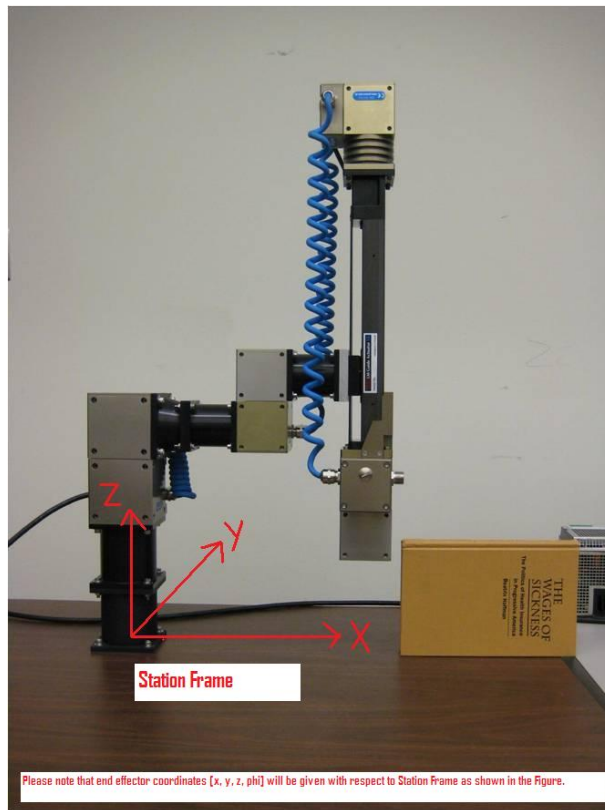
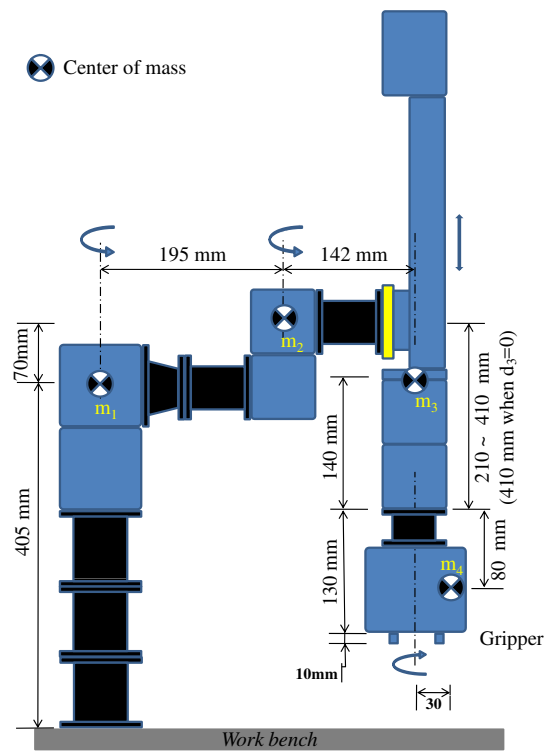

Figure 1: Assigned Station Frame. The robot is shown in joint configuration $(0^\circ, 0^\circ, -200\text{mm}, 0^\circ)$.
Figure 2: Schematic of SCARA type robot system assembled in 488 Lab.
In this project, you will simulate a 4-DOF SCARA type (RRPR) manipulator and apply the subject matter of your lectures to the manipulator. SCARA Configuration is shown in Figure 8.5 of your text, the real robot is shown in Figure 1, and a schematic of the real robot is shown in Figure 2. This simple manipulator is complex enough to demonstrate the main principles of the course while (hopefully!) not bogging you down with too much complexity. Each part of the project builds upon the previous one so that at the end of the project, you will have created an entire library of manipulator software. Two SCARA robots are also there in the lab, and you will get a chance to test some of your functions on the real robot. The project is to be done in groups, with each group consisting of **three** students. Please note that you are free to “adapt” the project, as long as these adaptations have been discussed with me and gotten approved.
- Assign D-H frames to the manipulator. Assign station frame $\{S\}$ as shown in Figure 1. Assign the origin of Tool frame $\{T\}$ in the centre of the gripper (note Z_T points downwards). Determine the D-H parameters and the forward kinematic equations. Although numerical values are given to you, it would be better to
2. The kinematic parameters are shown in Figure 2. Joint 1 has a joint limit of $\pm 150^\circ$, joint 2 has a joint limit of $\pm 100^\circ$, joint 3 can move between $[-200\text{mm}, -100\text{mm}]$ (the loewer limit is hardware limit, but the upper limit is artificially imposed so that the gripper does not hit the workbench), and joint 4 has a joint limit of $\pm 160^\circ$. In your simulator, you should assume that the robot has a gripper mounted at the end.
3. The dynamic parameters are as follows. Note that this applies to the simulator only, and not the real robot. m_1, m_2, m_3, m_4 are mass of the four links respectively; $m_1 = 1.7\text{kg}$, $m_2 = 1.0\text{kg}$, $m_3 = 1.7\text{kg}$, and $m_4 = 1.0\text{kg}$. For all four links, assume that the mass is all concentrated into a point mass, and the respective locations of centres of mass are shown in Figure 2. Assume some viscous friction at each joint. Of course, gravity acts vertically downward. It would be a a good idea to derive all equations